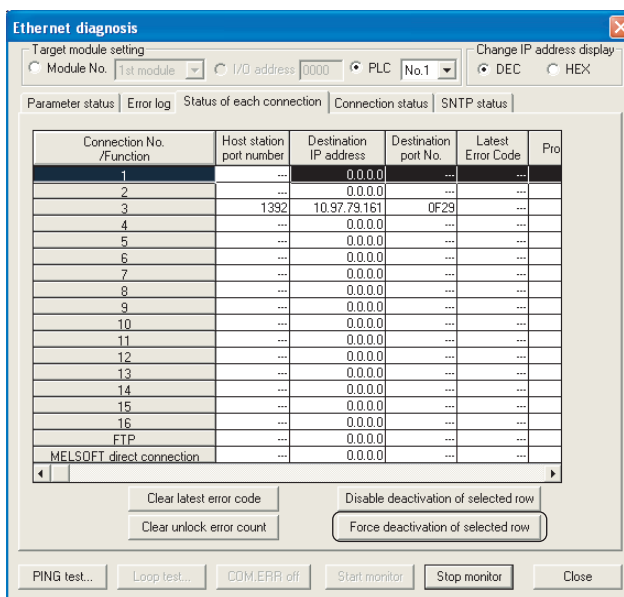

Figure 7.32 Ethernet diagnosis screen
- By selecting the target connection on the Status of each connection tab, which is displayed by clicking the "Built-in Ethernet port diagnostics" button on the PLC diagnostics screen in GX Developer. (Refer to Figure 7.32.)